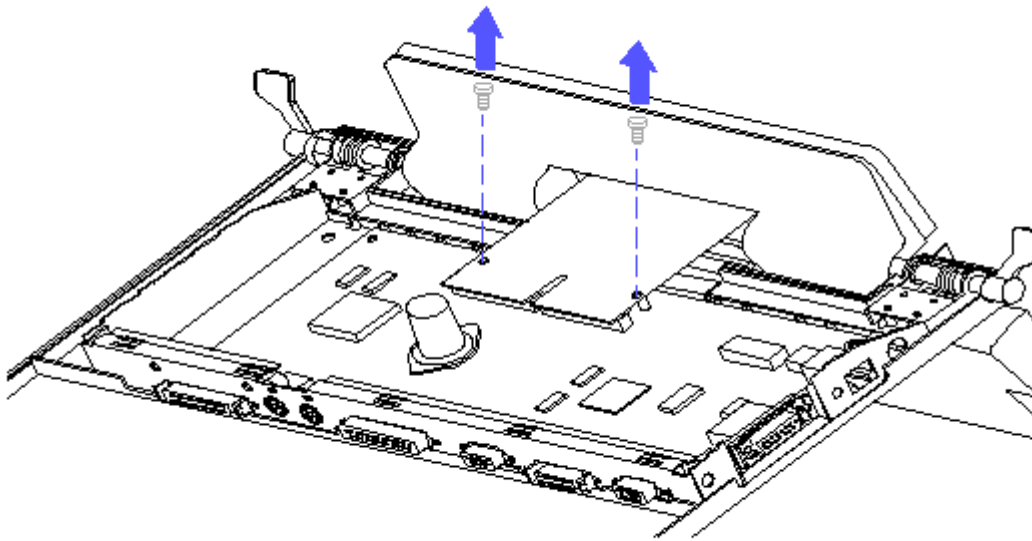

Figure 4-12. Disconnecting the Flex Cable from the Interface Board
6. Remove the two screws securing the flex cable to the interface board and disconnect the flex cable from the interface board (Figure 4-12).